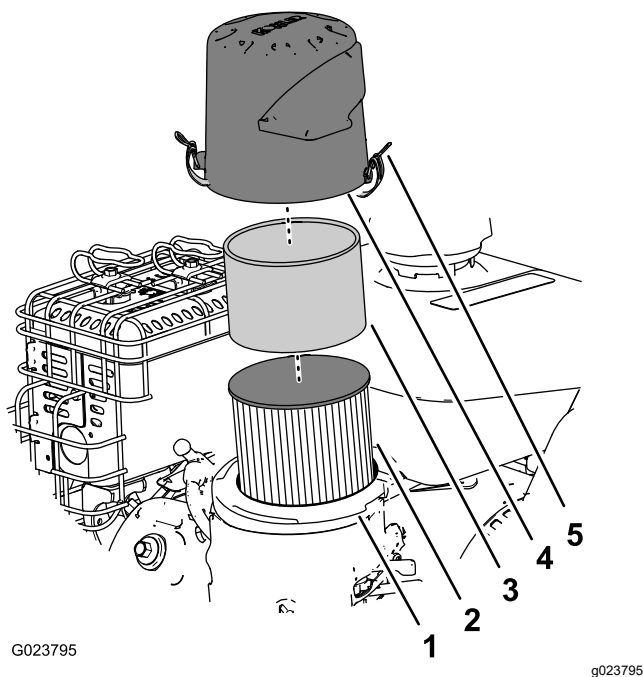

Figure 25
- Remove the cover and clean it thoroughly (Figure 25).
- Remove the foam pre-cleaner, wash it with a mild detergent and water, and then blot it dry (Figure 25).
- Remove and inspect the paper air filter (Figure 25); discard it if it is excessively dirty.
- Install the foam pre-cleaner onto the paper air filter (Figure 25).
- Install the air filter assembly to the air-filter base (Figure 25).